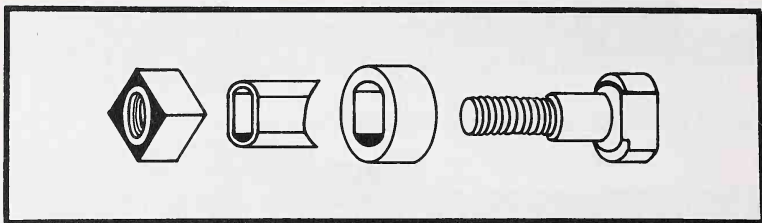

Fig. 2-14. A Double-D punch makes a neat job of installing locks in metal drawer fronts.
- Punch and die set in single and double *D* configurations (Fig. 2-14)